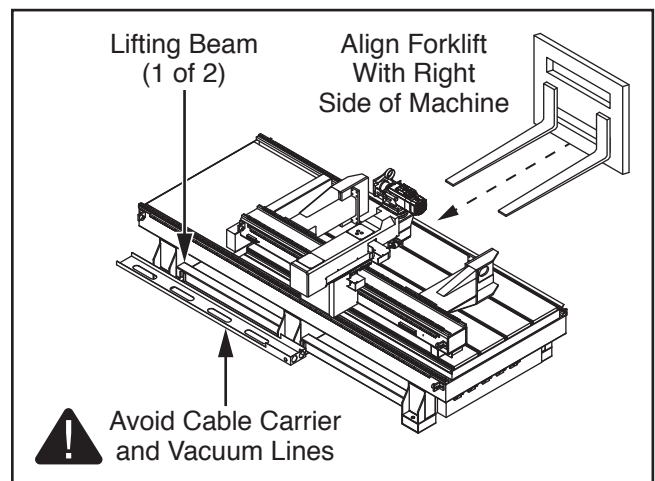

Figure 24. Lifting machine with a forklift.
6. Align forklift with right side of machine and position forks under lift beams on underside of machine body (see **Figure 24**). Only lift machine enough to clear pallet, then move pallet out of the way.